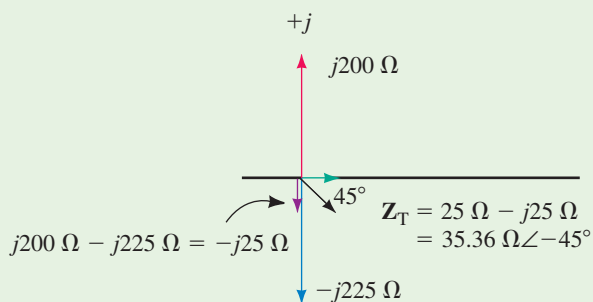

FIGURE 18–21
- The corresponding impedance diagram is shown in Figure 18–21.